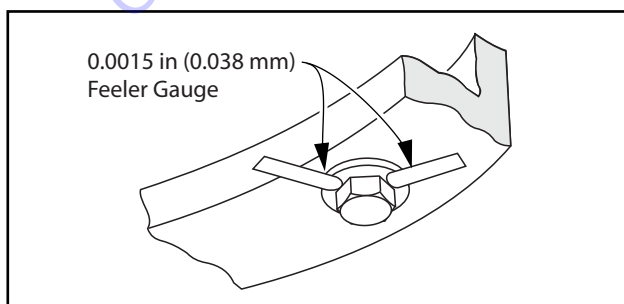

Figure 3-61. Frame Side Bearing Bolt Feeler Gauge Check
- c. Ensure 0.0015 in (0.038 mm) feeler gauge will not fit under bolt head to bolt shank as shown in Figure 3-61.